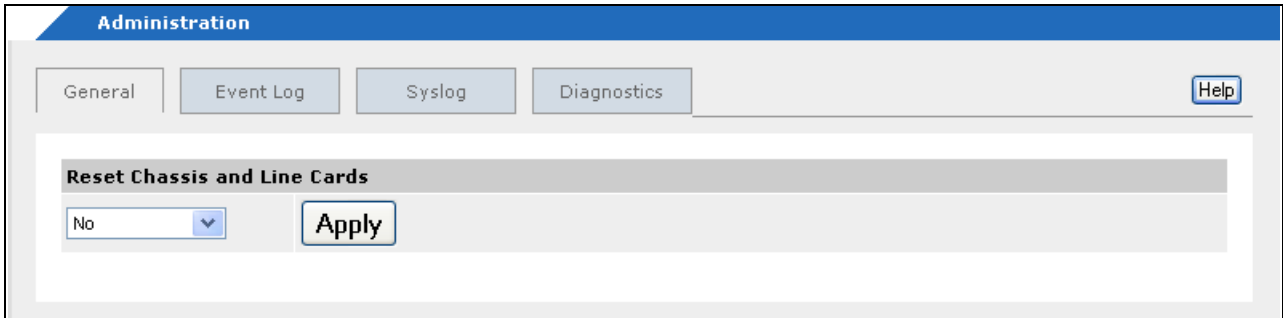

Figure 68. General tab
2. If the **General** tab shown in Figure 68 is not selected, select it.